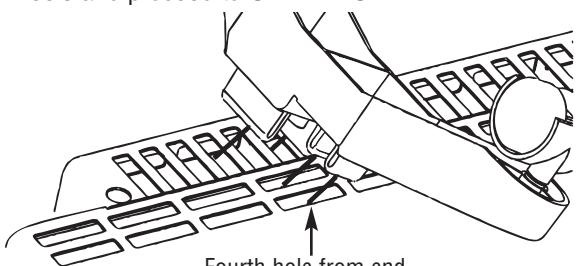

Figure 1
- 1 If the heater is to be used as a **free standing** unit, support legs must be attached. Remove the two legs from the accessory box. Lay the heater on the floor, insert the two legs into the rectangle holes on the left and right sides near the ends of the heater bottom making sure to fit the 4 clips of each leg into the holes (see Figure 1). Press firmly to securely snap into place (a small flat screwdriver may be required to secure clips). After both sides are fitted, stand the heater upright on the wheels and proceed to OPERATION.